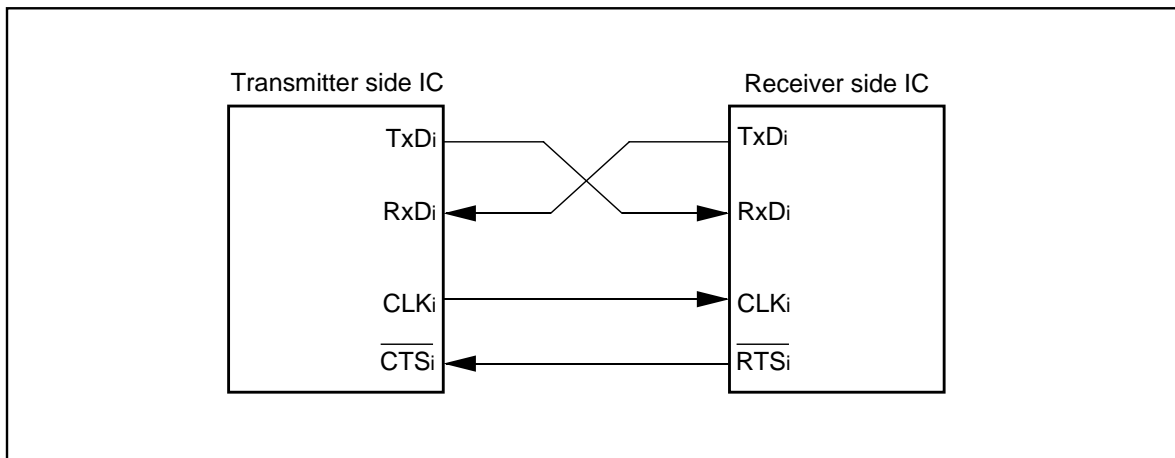

Figure 2.3.11. Example of wiring
- (1) With an external clock selected, and choosing the  $\overline{\text{RTSi}}$  function, the output level of the  $\overline{\text{RTSi}}$  pin goes to "L" when the data-receivable status becomes ready, which informs the transmission side that the reception has become ready. The output level of the  $\overline{\text{RTSi}}$  pin goes to "H" when reception starts. So if the  $\overline{\text{RTSi}}$  pin is connected to the  $\overline{\text{CTS}_i}$  pin on the transmission side, the circuit can transmission and reception data with consistent timing. With the internal clock, the  $\overline{\text{RTS}}$  function has no effect. Figure 2.3.11 shows an example of wiring.